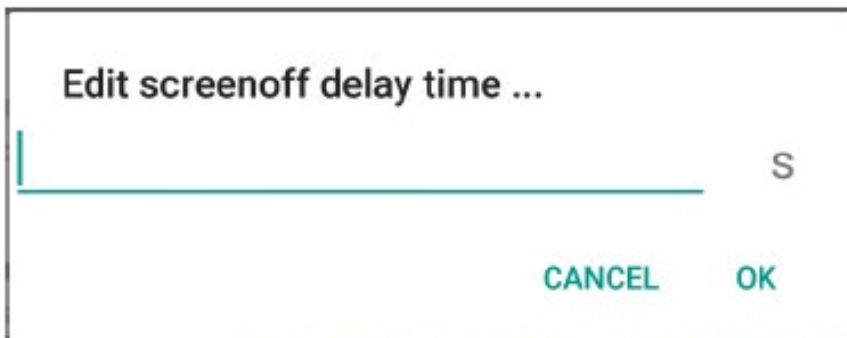

Figure 2-6 Screen off delay time setting dialog box
3. Click to pop up the dialog box in Figure 2-6 to set the delay time to turn off the screen display after ACC is disconnected;